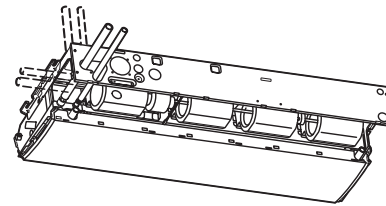

Fig. 2-70
- The positions of the refrigerant tubing connections are shown in the figure below. (The tubing can be routed in 3 directions.) (Fig. 2-70)
\* If the drain hose is routed through the left side, refer to Fig. 2-70, and follow the procedure above to install the hose. Reattach the rubber stopper removed earlier onto the right side.